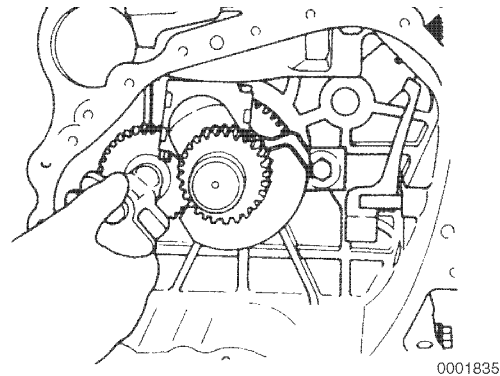

Figure 6-42
7. Remove the balancer **Figure 6-42** shaft by pulling it up and out of the crankcase, rotating as necessary for clearance. As with the camshaft, note the alignment marks where the balancer shaft gear meshes with the crankshaft gear.